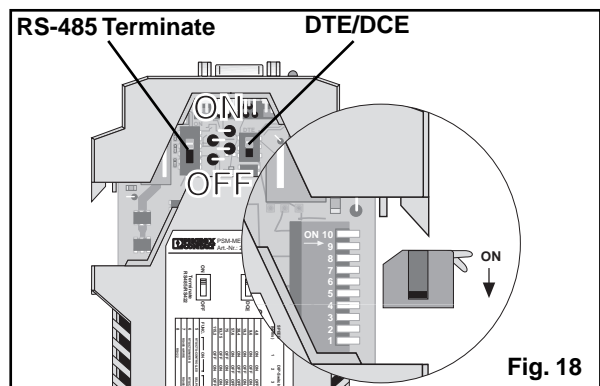

Fig. 18
- 2) If the automatic operating mode was selected, set the transmission rate with the aid of DIP-switches S1-S4 (fig. 18) and the table below.
- 5) If necessary, activate the terminating resistors fig.18 (Please observe the section 8 on "Terminating resistor for the RS-485/RS-422 interface", page 12).